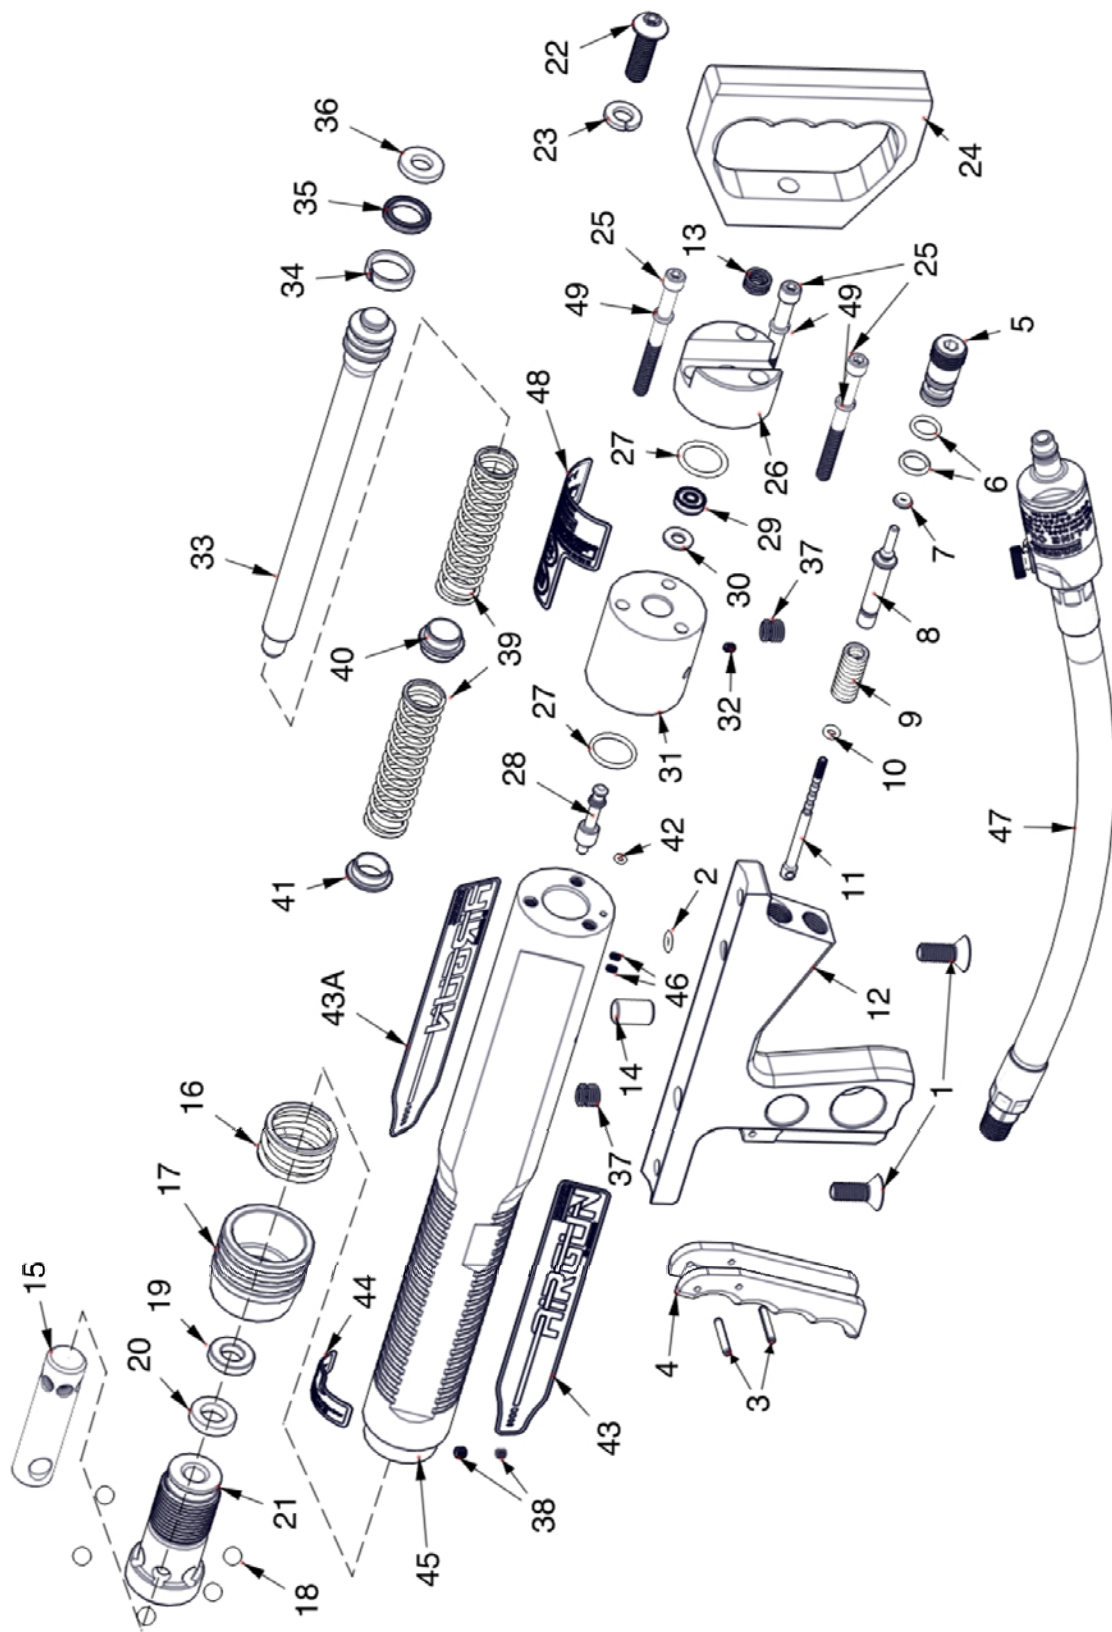

Figure 6-1. Airgun Exploded View
Refer to chapter 3 for a theory of operation that is helpful when used in conjunction with the Airgun troubleshooting guide given in table 5-1. Refer to figure 6-1 for parts identified by index numbers.
The only adjustment of the Airgun is the assembled distance, 5.068" (129 mm), between the front of trigger link (11, figure 6-1) and the back of trigger valve plunger (8). This adjustment is made only if operation commences with either no "triggering" or when the Airgun is "just barely triggered". Screw the trigger link into the trigger valve plunger until the 5.068" (129 mm) dimension is achieved. A minimum amount of trigger lever (4) play should be present before operation commences.
6-4.1 The following procedures describe one method of complete disassembly of the Airgun. Work in a clean area and place all disassembled parts on clean shop wipes. All parts subjected to any air passage should exhibit a film of lubricant. If clamping is required, use pads to prevent scratching/scoring/abrading the clamped parts. When repairing the Airgun, remove only those parts determined to be broken, cracked, deformed or otherwise damaged. During inspection, parts exhibiting any damage characteristics referenced herein should be replaced with the exception of minor thread damage repair, apply only the procedural steps that are applicable to the work to be performed. Prior to disassembly of the Airgun, unscrew the oiler hose assembly from the Airgun. Refer to figure 6-1 and proceed as follows: